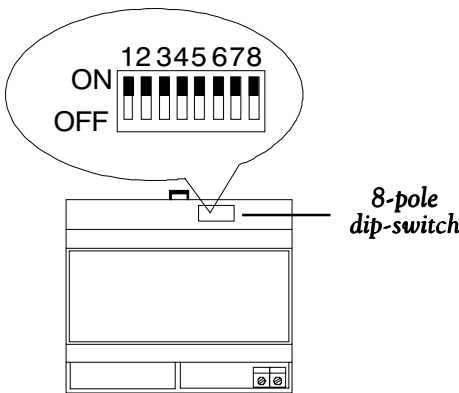

Fig. 22
- Functions are easy to program using the 8-pole dip-switch (see Fig. 22) shown in para. 5.1.2.